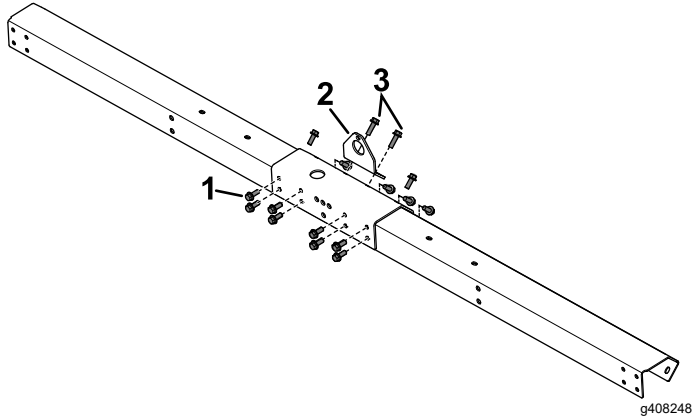

Figure 2
2. Secure the left and right shrouds to the center support bracket with 14 hex bolts (3/8 x 1 inch) and 14 locknuts (3/8 inch); refer to Figure 2.
3. Connect the center nozzle holder onto the shroud assembly with 2 hex bolts (3/8 x 1-1/4 inches) and 2 locknuts (3/8 inch); refer to Figure 2.